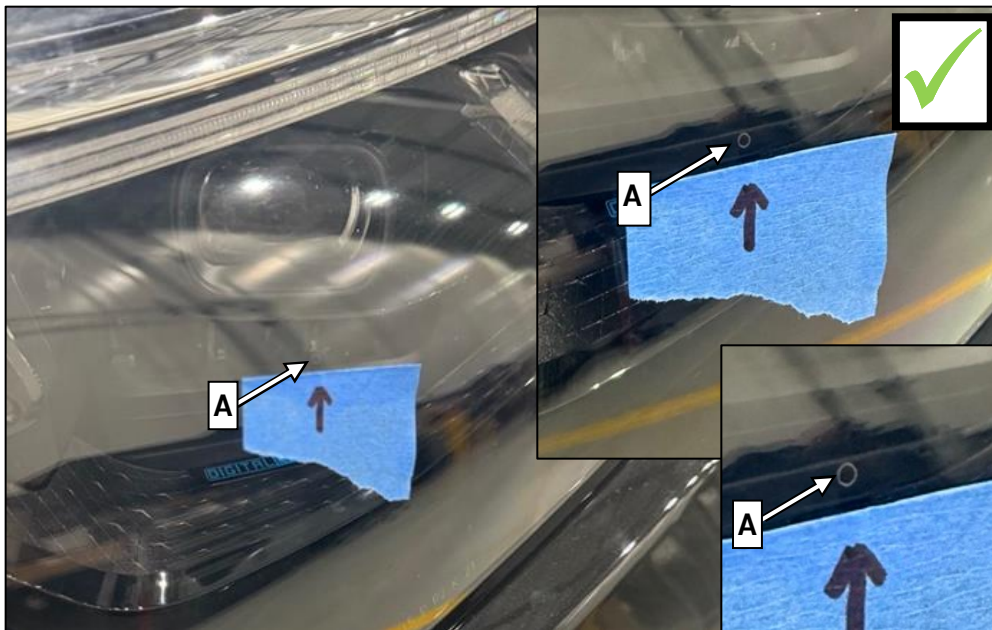

Figure 1 (shown on left lamp unit)
**i** The adjustment dots look like a small round circle (**Figure 1, A**).